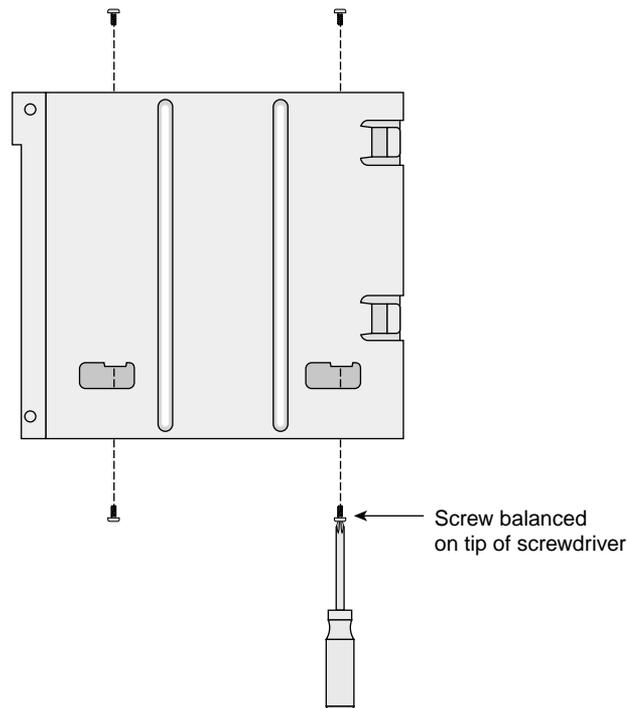

Figure 2-35 Securing the CD-ROM drive to the Drive Module
- Hold the drive module vertically with the two empty screw holes pointing down as shown in Figure 2-35.
- Place a screw on the tip of a small Phillips screwdriver as shown in Figure 2-35.